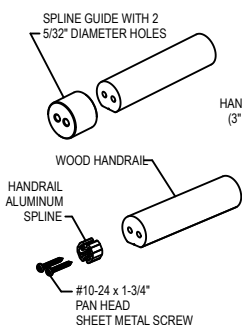

FIG. 3b
b. Attach returns, corners and splices to handrail by sliding component over the spline and tighten with set screw. See Figure 3b.